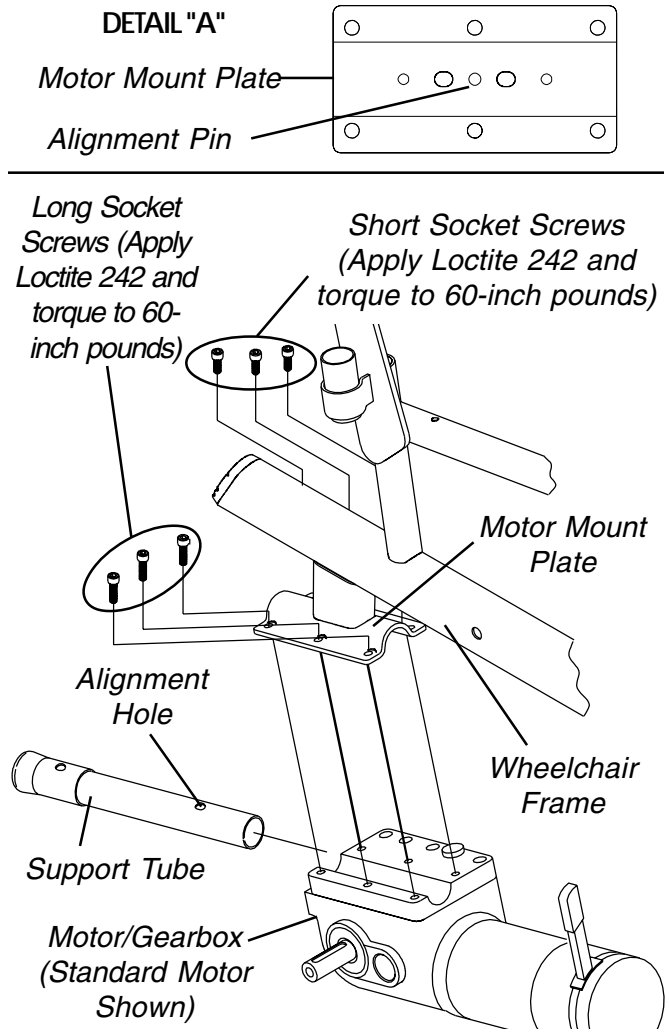

FIGURE 1 - REPLACING MOTOR/GEARBOX
4. Remove the six (6) socket screws that secure the motor/gearbox and support tube to the wheelchair frame.
NOTE: The alignment pin is the longest of the three (3) pins and is located in the center of the wheelchair frame motor mount plate. Refer to DETAIL "A" in FIGURE 1.